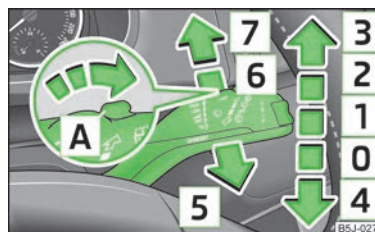

Fig. 30
- If you only wish to wipe the windscreen **briefly**, push the lever into the spring-tensioned position **4** » Fig. 30.
- Position the lever upwards into position **1** » Fig. 30.
- Position the lever upwards into position **2** » Fig. 30.
- Position the lever upwards into position **3** » Fig. 30.
- Pull the lever towards the steering wheel into the spring-tensioned position **5** » Fig. 30, the wash system and the windshield wipers will operate.
- Push the lever away from the steering wheel into position **6** » Fig. 30 and the windscreen wiper will operate every 6 seconds.
- Push the lever away from the steering wheel into the spring-tensioned position **7** » Fig. 30, the windshield wiper and wash system will operate.
- Move the lever back into the home position [0] » Fig. 30.
When the low beam or main beam are switched on, and the windscreen wiper lever is pulled into the position [5] » Fig. 30 on page 43, the headlights are sprayed briefly. To clean the headlights, the windshield is also sprayed after every five squirts.